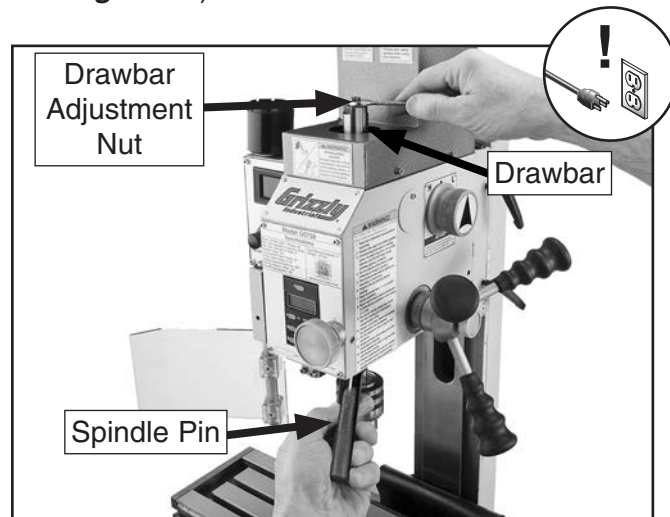

Figure 28. Components used when installing or removing tooling.
Note: Height of drawbar inside spindle can be changed by rotating adjustment nut (see **Figure 28**).
5. Secure spindle with spindle pin and tighten drawbar with wrench, as shown in **Figure 28**.